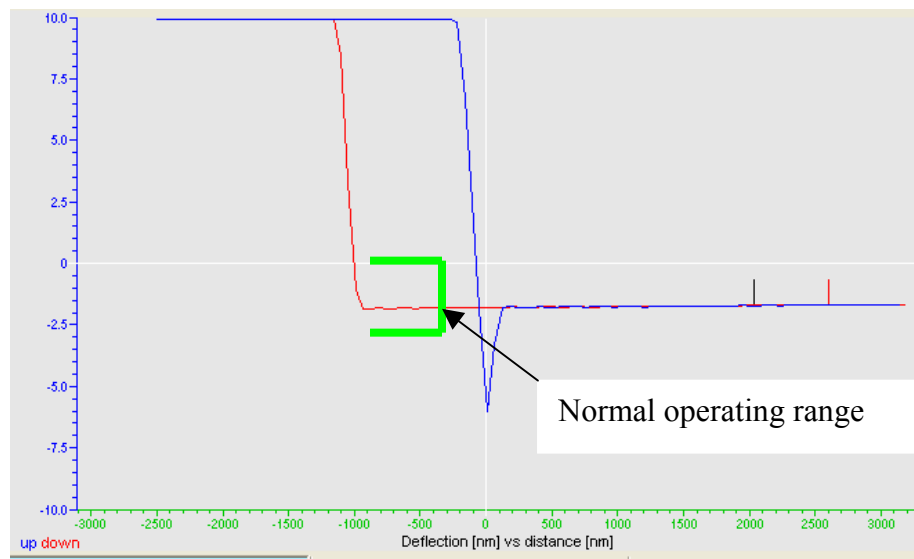
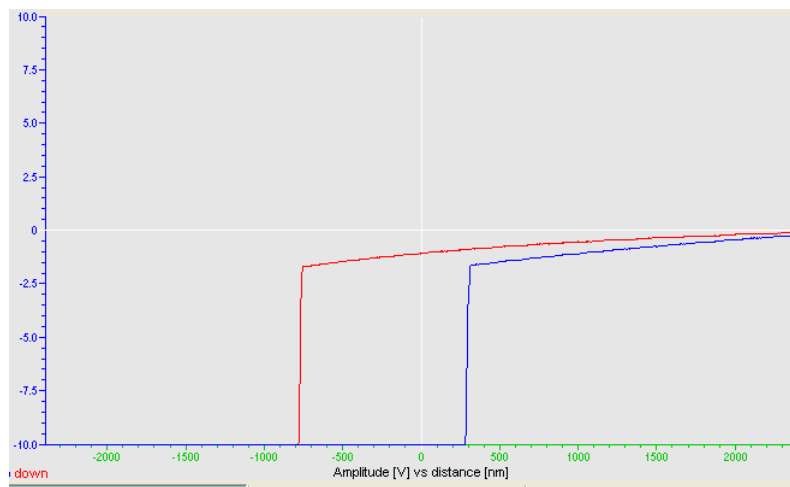

Fig. 6.3 F-d curve showing 'Normal operating range'
Fig. 6.8 Amp-distance curve showing an instance of a false engage
- The hysteresis in the open-loop scanner changes the f-d curve such that the approach and retrace portions do not overlap. This can be seen in Fig. 6.3 below.
- A-d curve can also be used to check for a false engage and to obtain a good operating setpoint. Fig. 6.8 is an instance of a false engage where the sloping line portion of the a-d curve and the shoulder lie below 0 on Y-axis (which is also the setpoint). Usually in this case the Z-piezo voltage is railed to -200V and the error signal reading on the microscope and oscilloscope window in the software is positive.
- Changing the setpoint moves both the f-d curve and a-d curves along the Y-axis (up and down). The setpoint should be adjusted such that a) for a f-d curve the point where the cantilever starts deflecting is below 0 on Y-axis (which also is the setpoint) and is situated in the ‘Normal operating range’ (see Fig. 6.3). The more this point is below the setpoint line, the more the cantilever bends and hence contacts the surface harder. b) For an a-d curve the shoulder is above 0 on Y-axis (which also is the setpoint) and there should be sufficient reduction in amplitude between the shoulder and the setpoint line as shown by the ‘Normal operating range’ (see Fig. 6.8). The more the shoulder lies above the setpoint line, the more the amplitude reduces and hence the cantilever taps the surface harder.